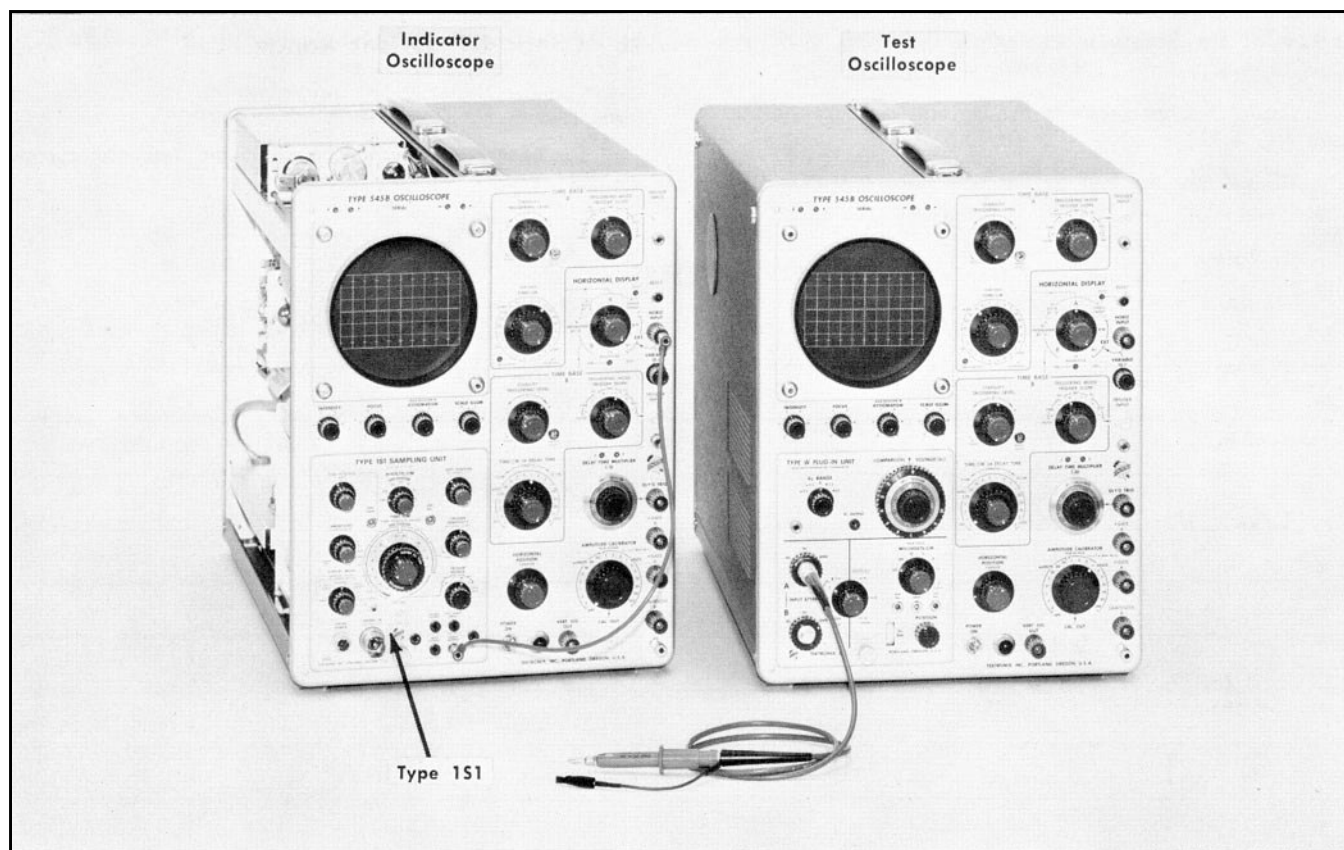

Fig. 5-43. initial test equipment setup for steps 27 and 28.
- a. Test equipment setup is shown in Fig. 5-43.